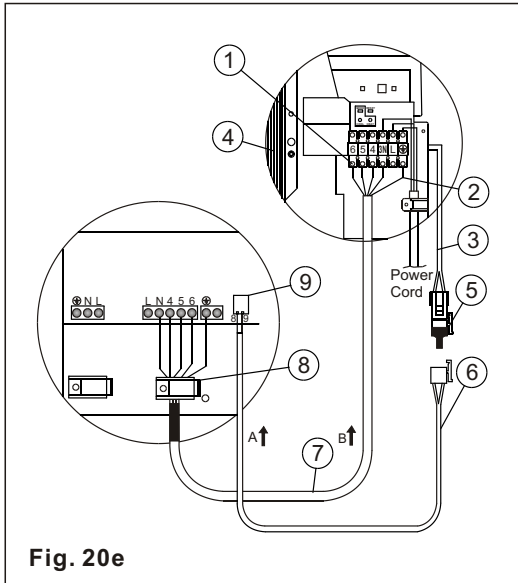
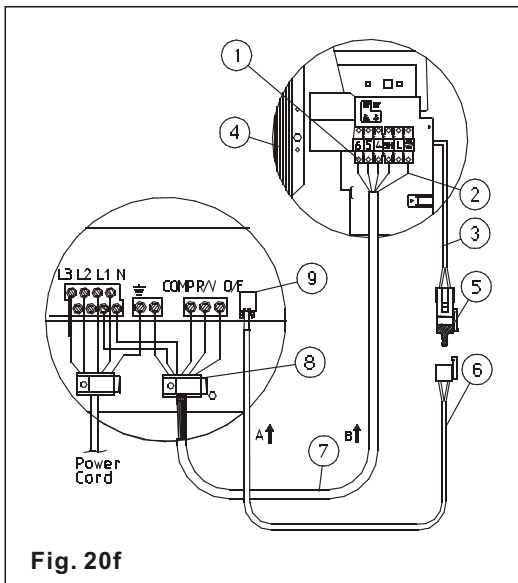

Fig.20e (WNG 24 1PH)
Fig.20f (WNG 24 3PH)
- Shape a loop and connect the yellow/green ground wire (2) to ground terminal screw of the indoor unit, as shown in fig.20a, fig.20b, fig.20c, fig. 20d, fig. 20e, fig. 20f.